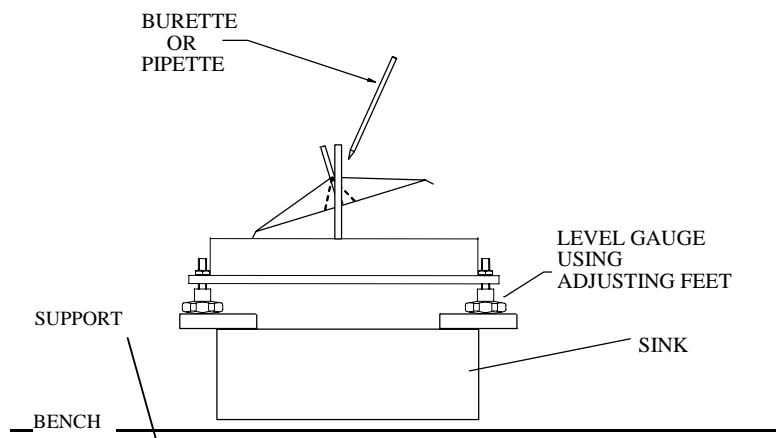

Figure 7 Setup for Static Calibration
1. Install the gauge over a sink unit as illustrated in Figure 7, ensuring that it is correctly levelled.